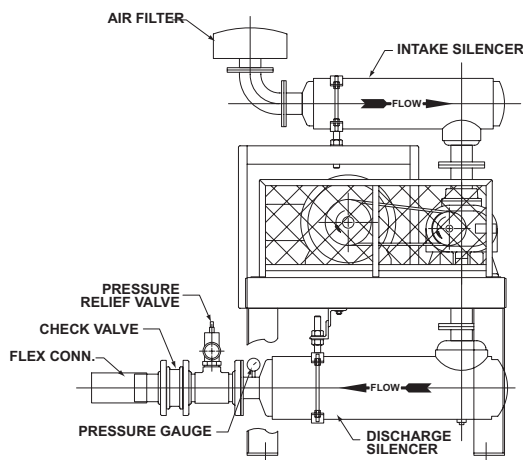

Figure 5-1 – Typical Blower Installation
**Figure 5-1** shows a typical complete installation of the blower and accessories. Note the absence of throttle or shut-off valves in both discharge and intake piping. If it is possible for airflow to be cut off in either line, add a pressure and/or vacuum relief valve. In some installations, it may be desirable to use only an inlet silencer-cleaner supported directly from the blower connection. Keep the weight of accessories and piping to a minimum to prevent blower casing distortion. If the weight exceeds 10% of blower weight, support the components independently of the blower and connect them with a flexible hose or connectors. The approximate weight of the blower is listed in **Table 4-1 on Page 8**.